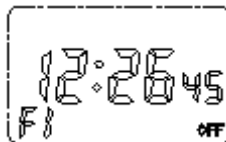

Figure4
4.1.1 Press button 'MD' for 3s to cancel the keyboard lockout, so that 'LOCK' may disappear, Press 'shift' to select the adjusted position and press '+' and '-' to plus and minus, so as to adjust the display time to the current time, see Figure 4.